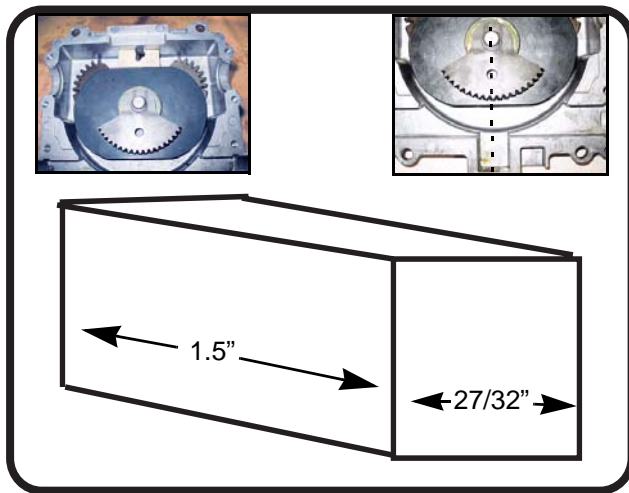

Figure 6.51
9. Center the cam so that the hole in the sector gear lines up with the center of the void where the wear block goes. See Figure 6.51. right inset.
NOTE: A wooden block can be used to hold the cam in place while timing the internal components. The measurements of the block should be $27/32$ " wide x 1.5" long. The height should be at least a $1/2$ ". See Figure 6.51.
NOTE: Putting a screw in the top of the block makes it easier to remove and prevents closing the box with the block still inside. See Figure 6.51. left inset.